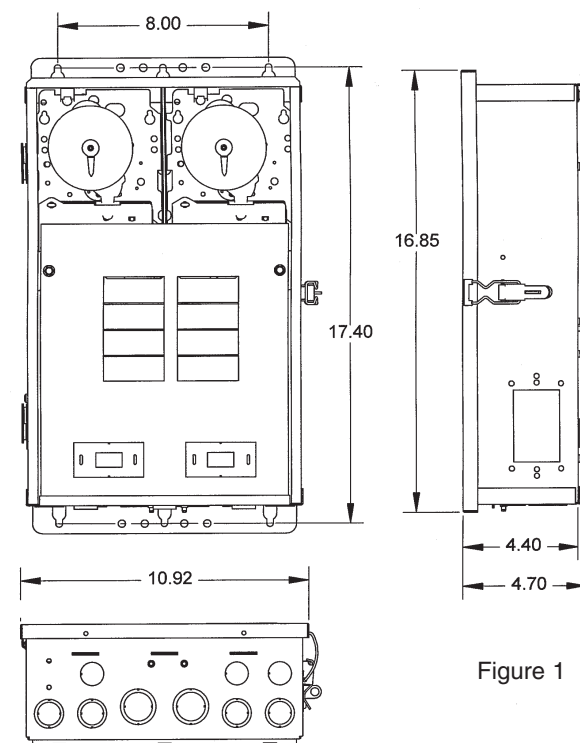

Figure 1
- Refer to Figure 1 below. Note that this enclosure contains **two** independent time switches. The one on the left is a **Model T106M**, a Single Pole Double Throw (SPDT) switch, and it's function is to **change** the speed (RPM) of the pump motor. The time switch on the right is a **Model T104M**, a Double Pole Single Throw (DPST) switch, and it's function is to **start/stop** the pump motor. To wire the two switches, follow wiring diagram on page 4 of this manual. Make sure that connections to time switch terminals are tight (25 lb. - in. minimum) and insulation clears the pressure plate - see illustration.
- Stand-offs are not furnished. Order 21T156A for a set of four (4) stand-offs and mounting hardware.